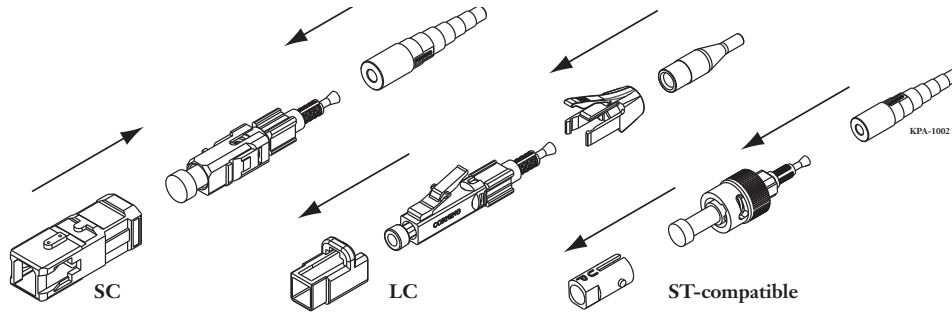

Figure 77 — Complete Assembly Based on Connector Type
Step 7: Depending on the connector types shown in Figure 77, reinstall the clear ferrule dust cap, remove the black load adapter, and add the appropriate hardware, additional strain-relief, and connector boot.